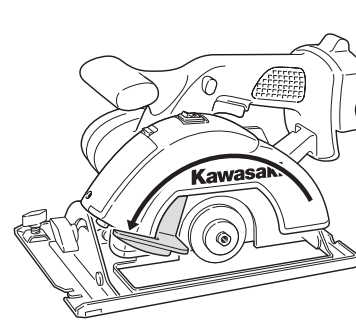

FIG. 1
- Retract the lower guard (see Fig. 1).